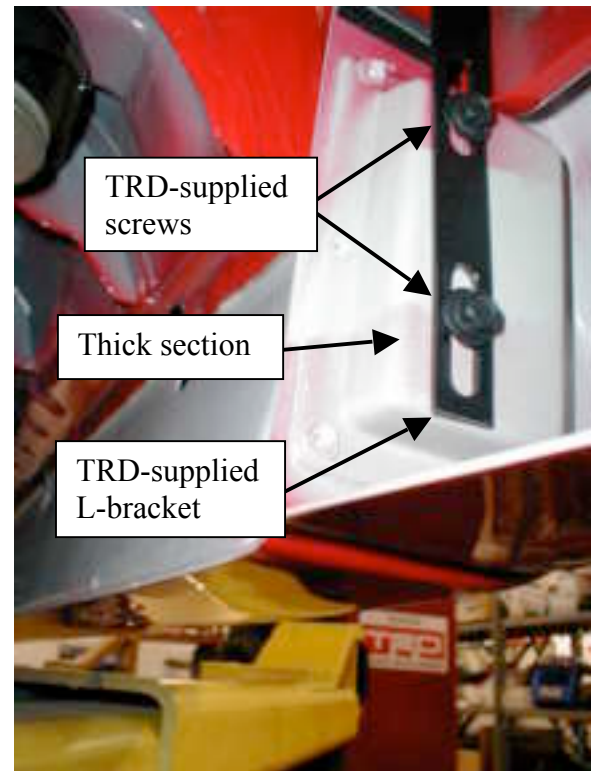

Figure 7
5. Line up the L-bracket and part. The L-shaped bracket must be placed so the TRD-supplied self-tapping screws will mount into the thick part of the skirt (Refer to Figure 7).
10. Install the TRD-supplied screws (from behind) through the TRD-supplied L-bracket into the thick section at the front of the skirt (Figure 7). You may want to pre-drill first. If you are using air tools, do not tighten the screws completely, as they will strip out the plastic. Do all final tightening with hand tools.